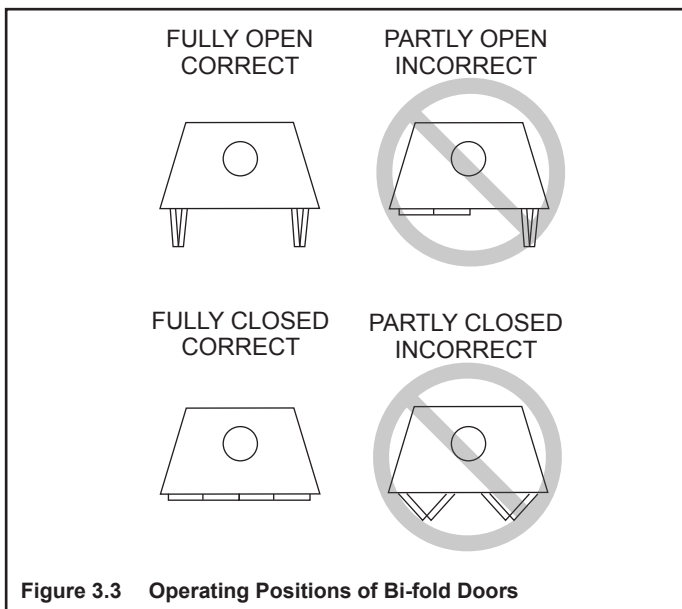

Figure 3.3 Operating Positions of Bi-fold Doors
- Refer to Figure 3.3 for how to properly use them.